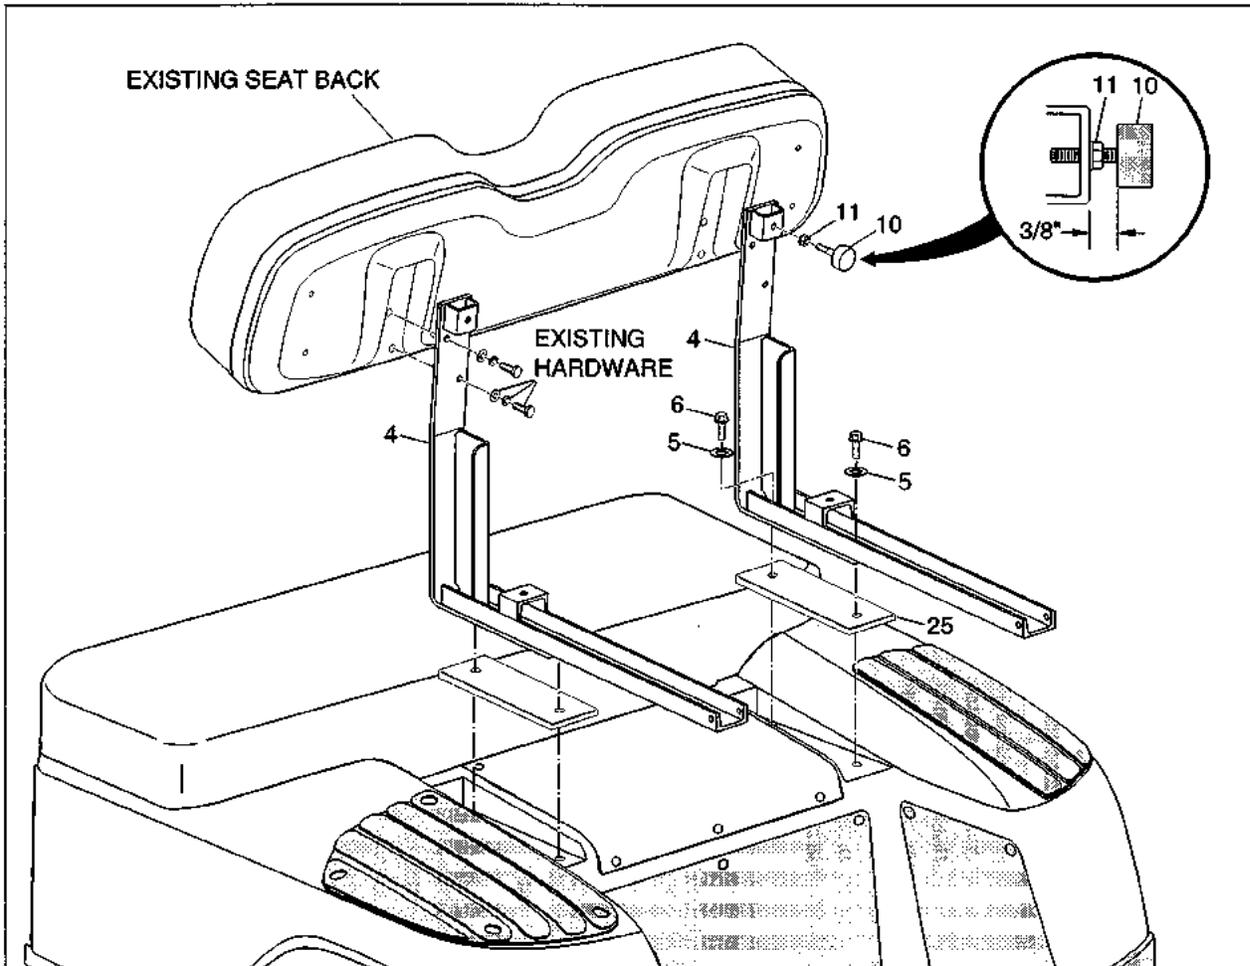

Fig. 3
### B. INSTALLING SEAT BACK SUPPORT (Refer to Fig. 3)
4. Install rubber bumpers (item 10) on vertical part of seat support bracket using one lock nut (item 11) (per bumper) as shown in Fig. 3. Tighten to dimension specified.
5. Tighten bolts (item 6) to 21 - 25 ft. lbs. torque.